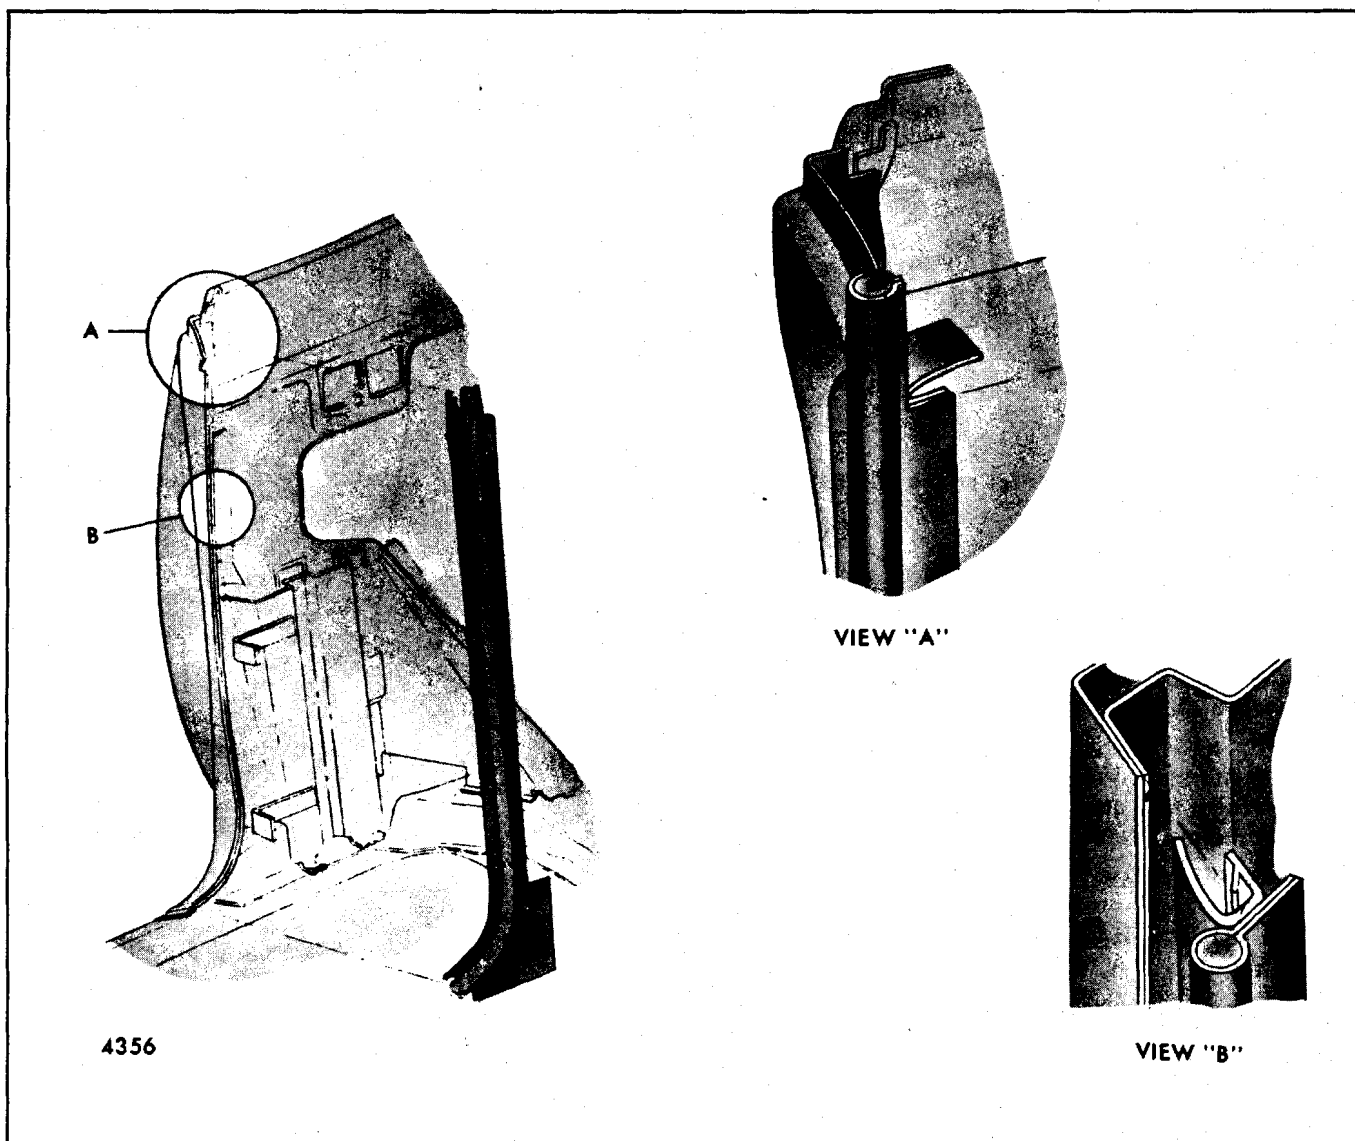

Fig. 13-30-Body Lock Pillar Windlace - "B and C" Styles
3. On "B and C" styles, pull inboard on the windlace to disengage from the lock pillar (Figure 13-30).